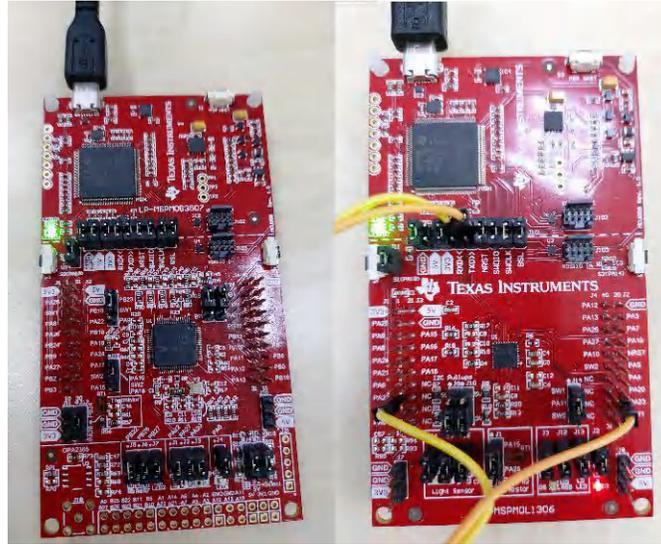

Figure 4-7. LaunchPad Kit Connection (Left: LP-MSPM0G3507, Right: LP-MSPM0L1306)
1. Connect the target device and the XDS110 to the PC. When using the XDS110 integrated in the LaunchPad kit, connect the micro USB cable to the PC as Figure 4-7.